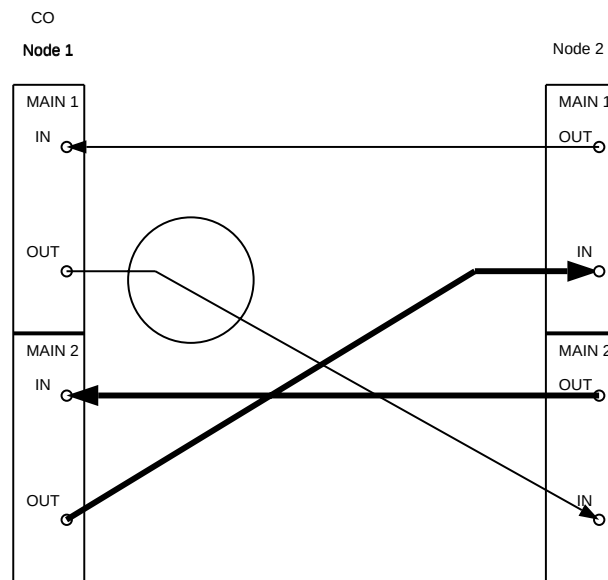

Figure 9. DDM-2000 OC-3 Drop or Add/Drop Network to Ring Upgrade
2 **MAIN 2(P) IN**. (See Figure 9.)